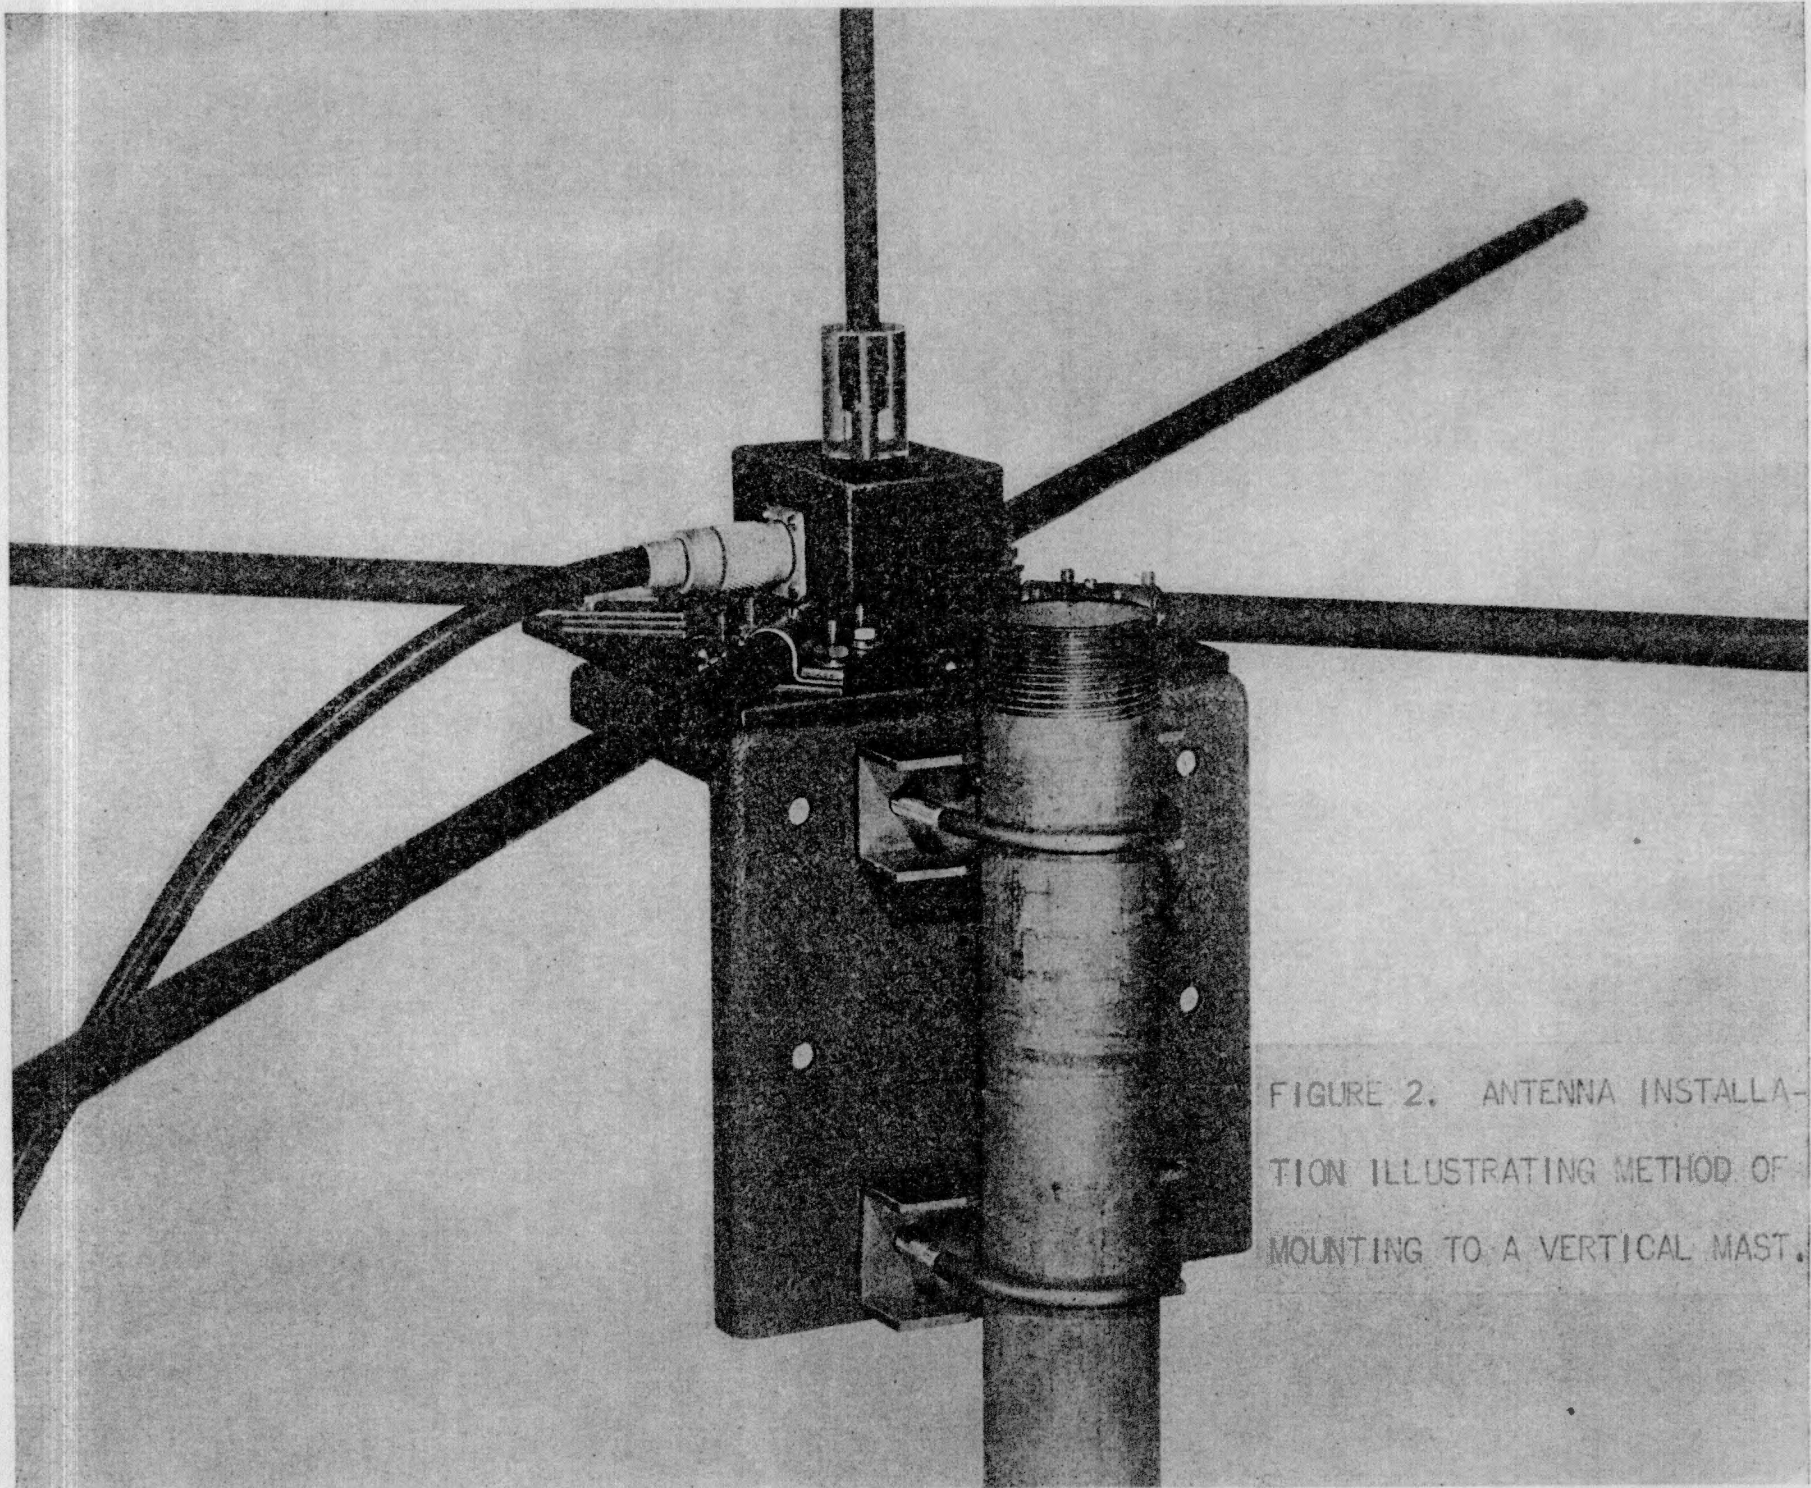

FIGURE 2. ANTENNA INSTALLATION ILLUSTRATING METHOD OF MOUNTING TO A VERTICAL MAST.
- Figure 2. Antenna installation illustrating method of mounting to a Vertical Mast.